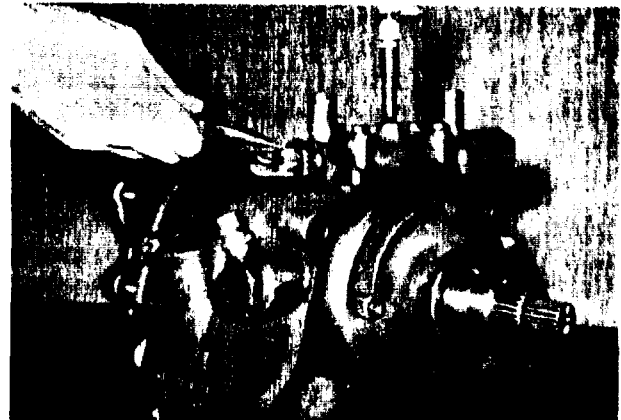

FIGURE 7-47.
a. Disconnect the shift lever from the spool by removing a cotter pin and a connecting pin from spool (see figure 7-47).